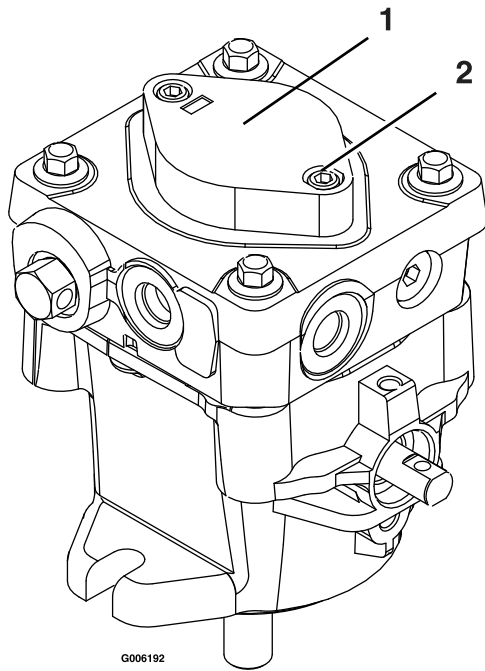

Figure 8
7. If either drive wheel does not rotate, one or both of the charge pumps (located on the top of the main pump as shown in Figure 8) may have lost their “prime”. Refer to **Hydraulic System Air Purge** section.
The critical area for purging air from the hydraulic system is between the oil reservoir and each charge pump located on the top of each variable displacement pump (Figure 8). Air in other parts of the hydraulic system will be purged through normal operation once the charge pump is “primed”.
5. To “prime” charge pump, loosen two hex socket head capscrews (shown in Figure 8) **1 1/2 turns only. Make sure engine is not running.** Lift the charge pump housing upward and wait for